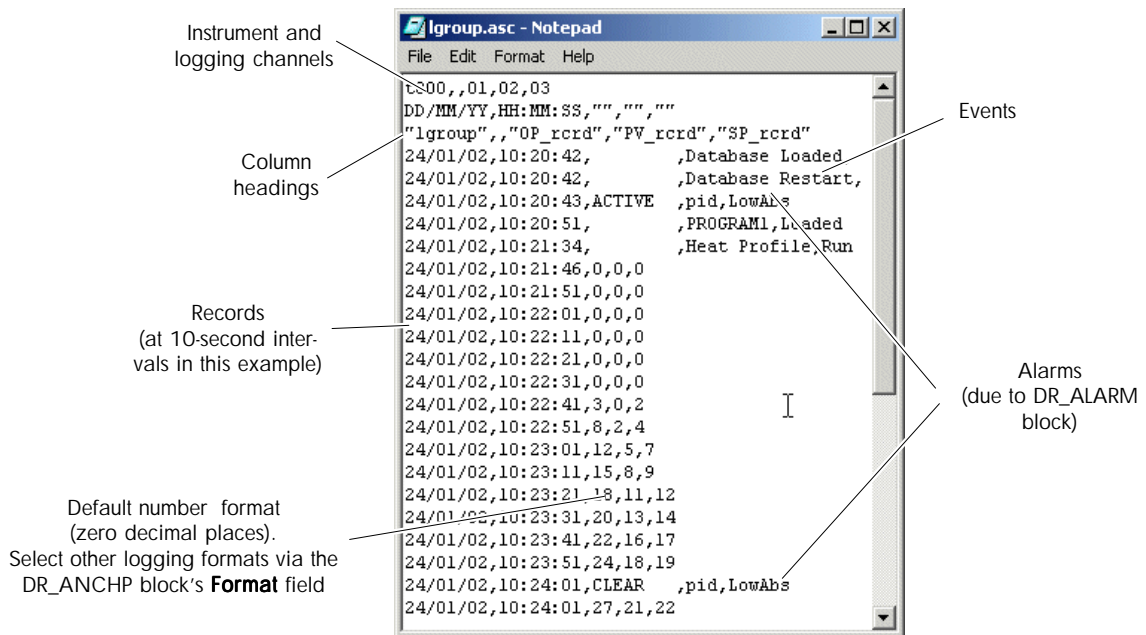

Figure 4-3b Example log file (ASCII, Text, Date Time format)
- 10 While data logging continues the data is held in the internal buffer store. The exact amount depends on how much data is being logged, in this case several minutes of data will be buffered. Insert the storage device into your Computer and examine the contents so far. You should see a single log file, called, e.g. **lgroup.asc**. Open the file in a text editor such as 'Notepad' or as a .csv file in a spreadsheet (e.g. 'Excel'). Figure 4-3b shows the sort of contents you should see.